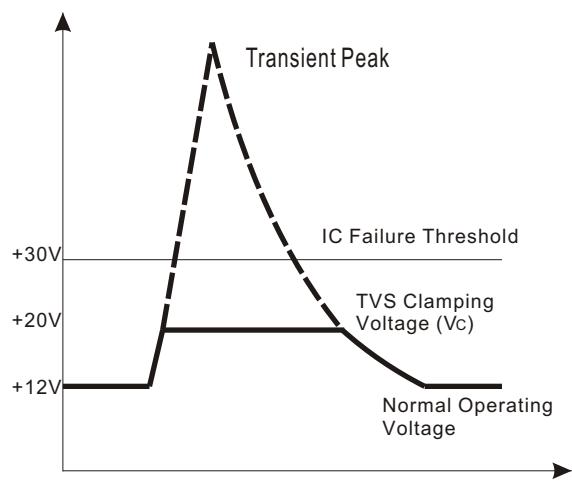

Fig. 8 - Transient current is diverted to ground thru TVS; the voltage seen by the protected load is limited to the clamping voltage level
6. Transient Voltage Suppressors (TVS) are devices used to protect vulnerable circuits from electrical overstress such as that caused by electrostatic discharge, inductive load switching and induced lightning. Within the TVS, damaging voltage spikes are limited by clamping or avalanche action of a rugged silicon pn junction which reduces the amplitude of the transient to a nondestructive level. See Fig. 7 & Fig. 8